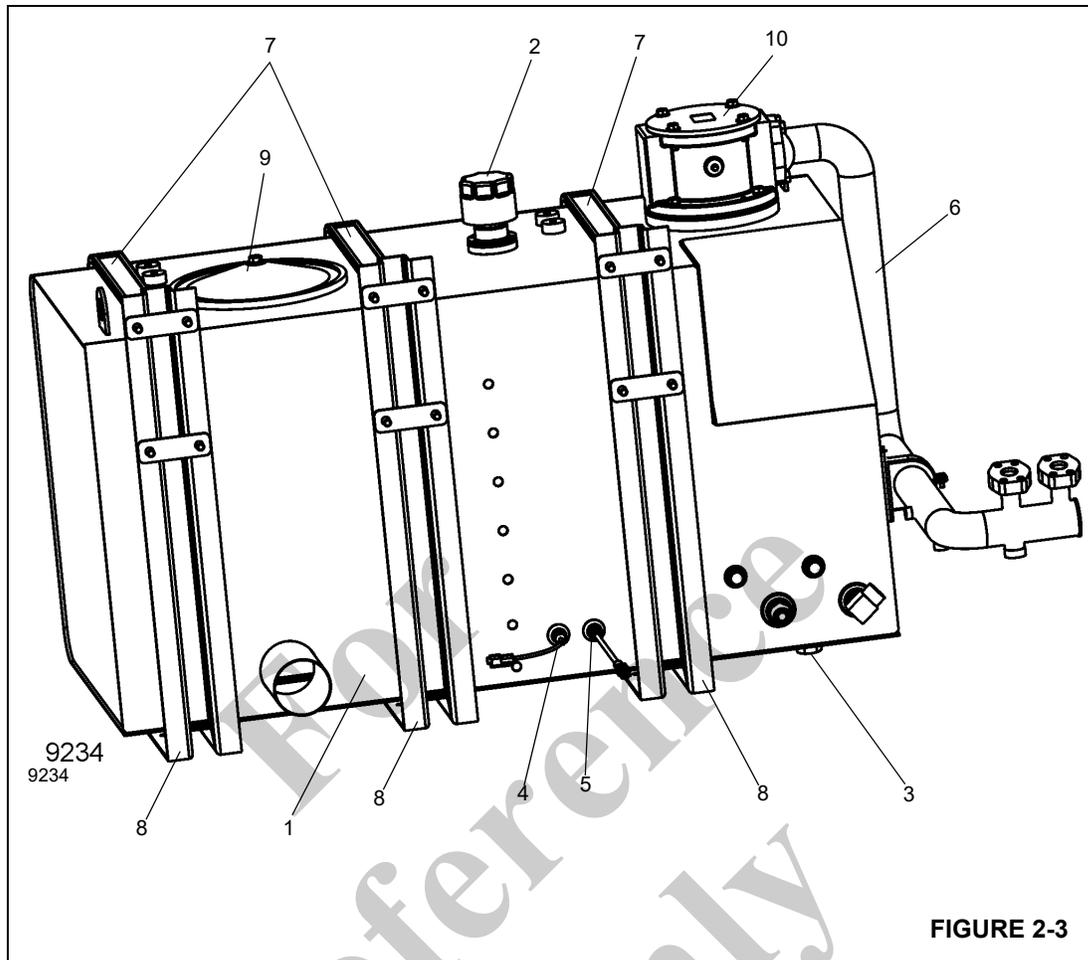

FIGURE 2-3
The reservoir Figure 2-3, attached to the right side of the carrier frame, has capacities listed in the following table.
This element filters the air in and out of the oil reservoir as the level changes. Remove the breather (2), (Figure 2-3) to add oil. The breather incorporates a filter to strain the oil